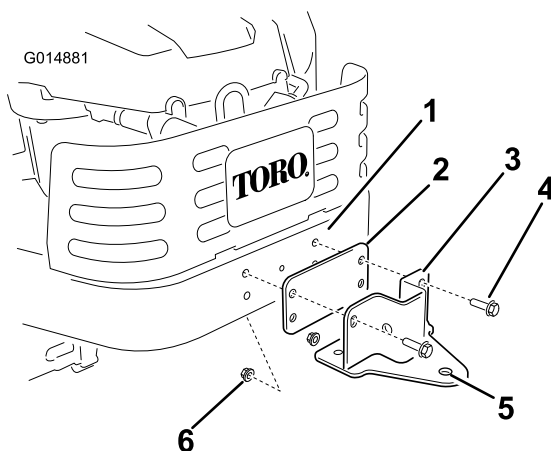

Figure 11
1. Locate the bagger frame support spacer plate and bracket in loose parts. Install the plate and support bracket to the machine frame as shown in Figure 11. Secure the support plate and support bracket to the frame using two bolts (5/16 x 1 inch) and two lock nuts (5/16 inch).